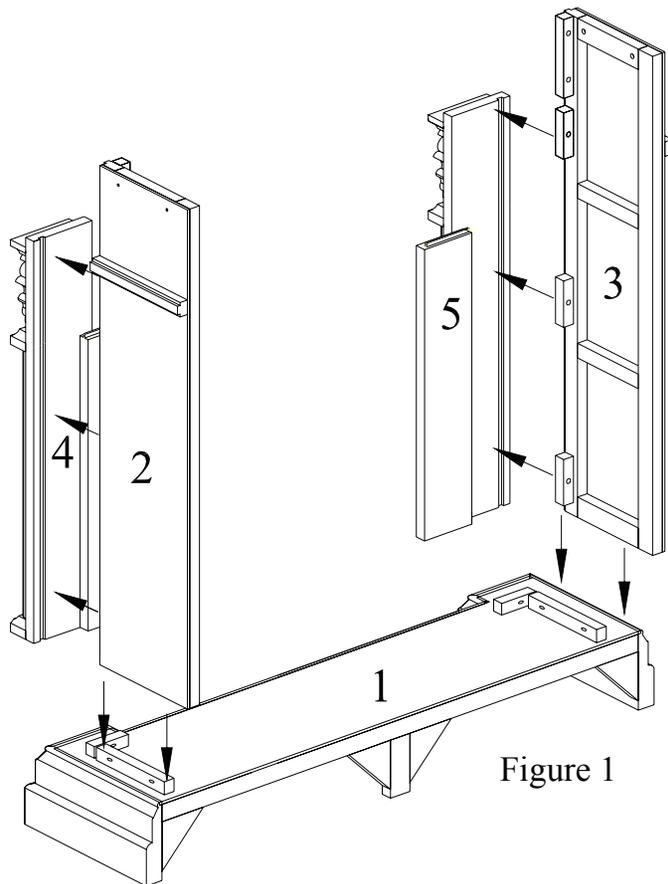

Figure 1
- Set base (1) on a flat surface.
- Using tongue and groove fit the Right Side Panel (3) into the Right Trim Panel (5). Make sure the bottom edges of the Right Side Panel and Right Trim Panel are flush. Attach together with 3 screws through mounting blocks.
- Repeat with Left Side Panel (2) and Left Trim Panel (4).
- Place assembled Right Panels on base with mounting block on the inside of Right Side Panel (3) against inside of base as shown in figure 1. Attach with 3 screws.